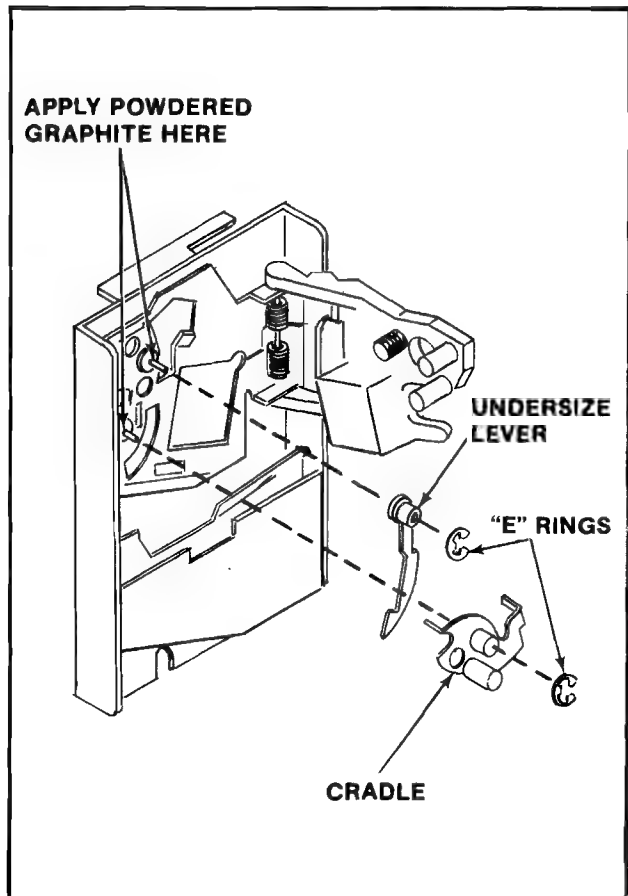

Figure 7-3 Lubricating the metal coin acceptor
- ☐ Use **ONLY** powdered graphite and put it **ONLY** on the moving parts of the coin acceptor. These parts are called out in Figure 7-3.